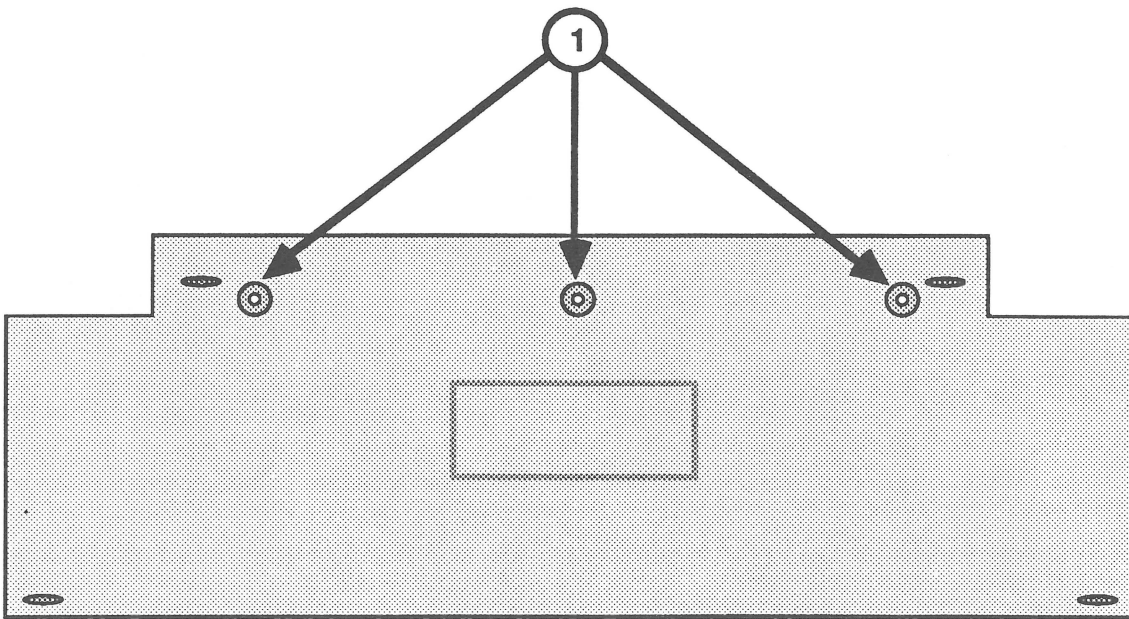

FIGURE 6
2. Remove the three screws from the back of the keyboard (see Figure 6, #1). Remove the small rectangular piece from the front of the keyboard.
3. Hold the rectangular plastic piece in place, turn the keyboard over, and install the three screws (see Figure 6, #1).